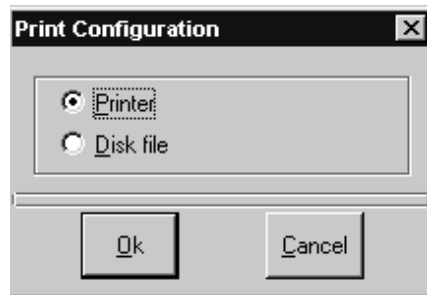

Figure 6-23. Print Configuration Window
1. Select **Options>Print Configuration** from the menu. The Print Configuration Window opens, as shown in Figure 6-23.